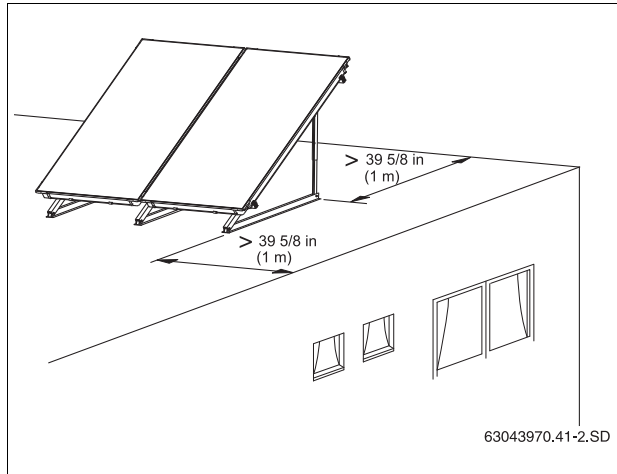

Fig. 15 Distance from the edge of the roof
- ▶ Before commencing the installation, ensure that at least the distances shown in Fig. 15 are clear between the racks and the edge of the roof.